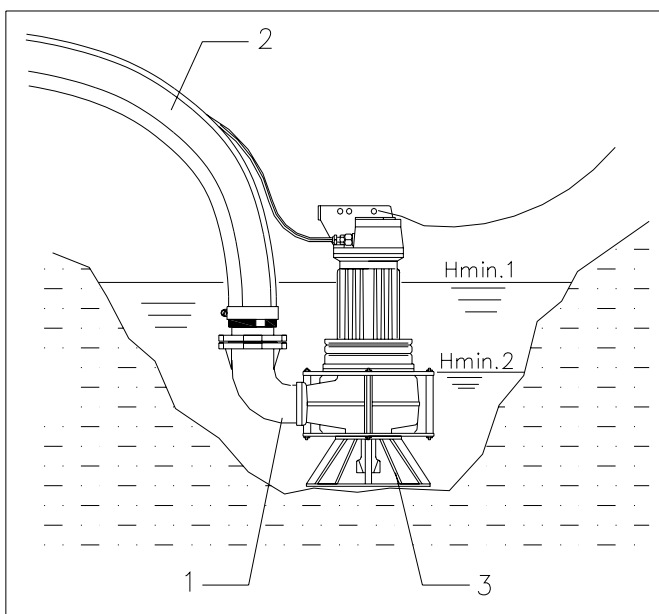

Fig. 6.9
- Check that the motor is adequately cooled. The motorhousing should be at least 2/3 submerged for continuous operation at full load (see Hmin.1 Fig. 6.9). It is good practice, whenever possible to keep the motorhousing completely under water.
We recommend not to run the pump with the water level below the top of the volute in order to avoid air being drawn in (see Hmin.2 Fig. 6.9).